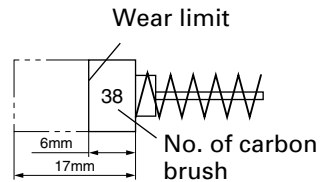

Fig. 19
3. Inspecting the carbon brushes (Fig. 19)
NOTE: Use HITACHI carbon brush No. 38 indicated in Fig. 19.